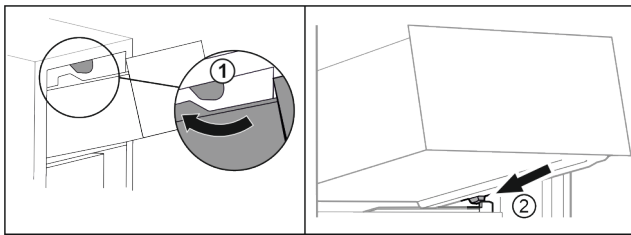

Fig. 111
- ▶ Guide drawer around the upper stoppers. Fig. 111 (1)
- ▶ Place drawer at an angle behind the lower stoppers onto moulded rib. Fig. 111 (2)